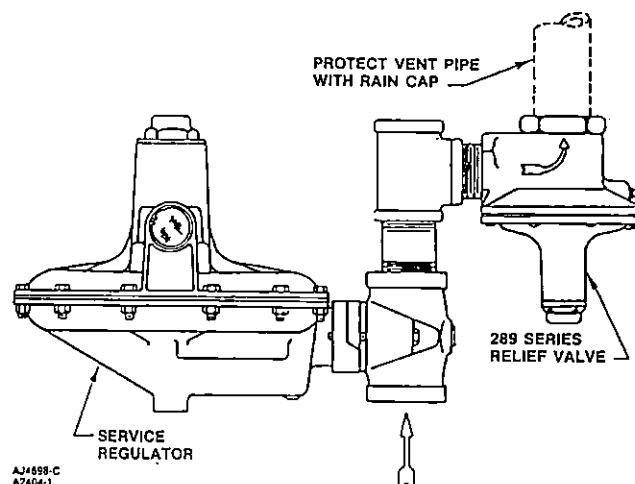

Figure 2. Typical Installation
4. The 289 Series relief valves may be installed in any orientation. However, if installing the relief valve at an outside location, adequate protection, such as raincaps or elbow piping (see figure 2), must be attached to the outlet to keep the relief valve from getting plugged or from collecting moisture, corrosive chemicals, or other foreign materials. If piping is to be attached to the valve outlet, the following parts (if they are connected to the valve outlet as shown in figures 4 through 8) must first be removed: the screen (key 9), the snap ring (key 13), and the gasket (key 15). A typical installation of a 289 Series relief valve is shown in figure 2.